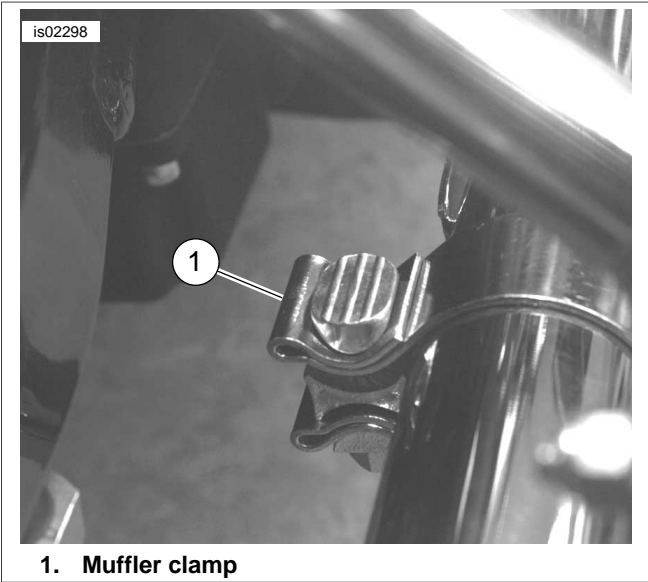
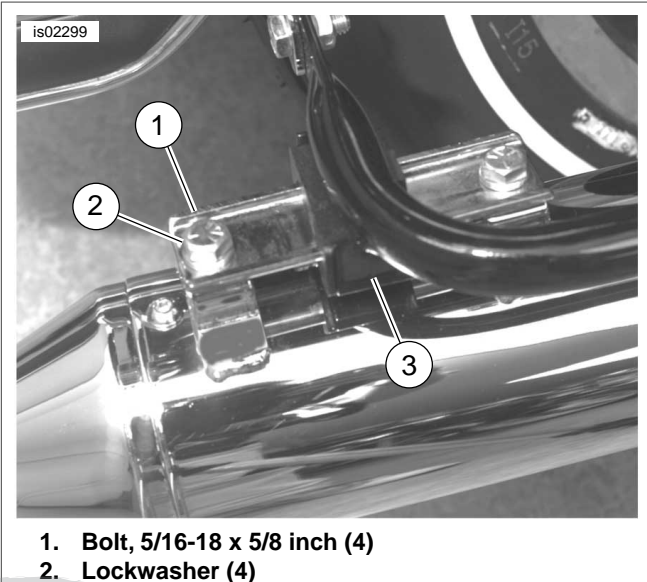

Figure 1. Front Muffler Clamp
Figure 2. Rear Muffler Mount
2. See Figure 1. Loosen stock muffler clamp (1).
3. See Figure 2. Remove and retain stock bolts (1) and lockwashers (2).
7. Position sliding bracket so rubber mount (3) is at center of sliding bracket.
8. Tighten bolts (1) to 19 ft-lbs (25.7 Nm).
9. See Figure 1. Position the muffler clamp as shown. The clamp bolt should be vertical.